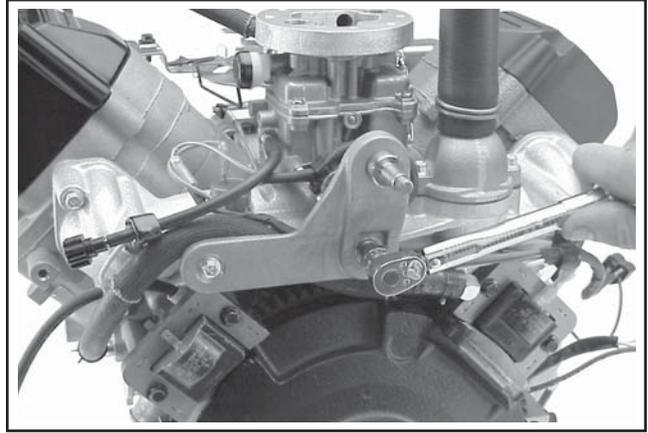

Figure 11-92. Installing Upper Pulley Bracket.
4. Install the upper fan mounting bracket to the intake manifold with the two screws. See Figure 11-92. Torque: